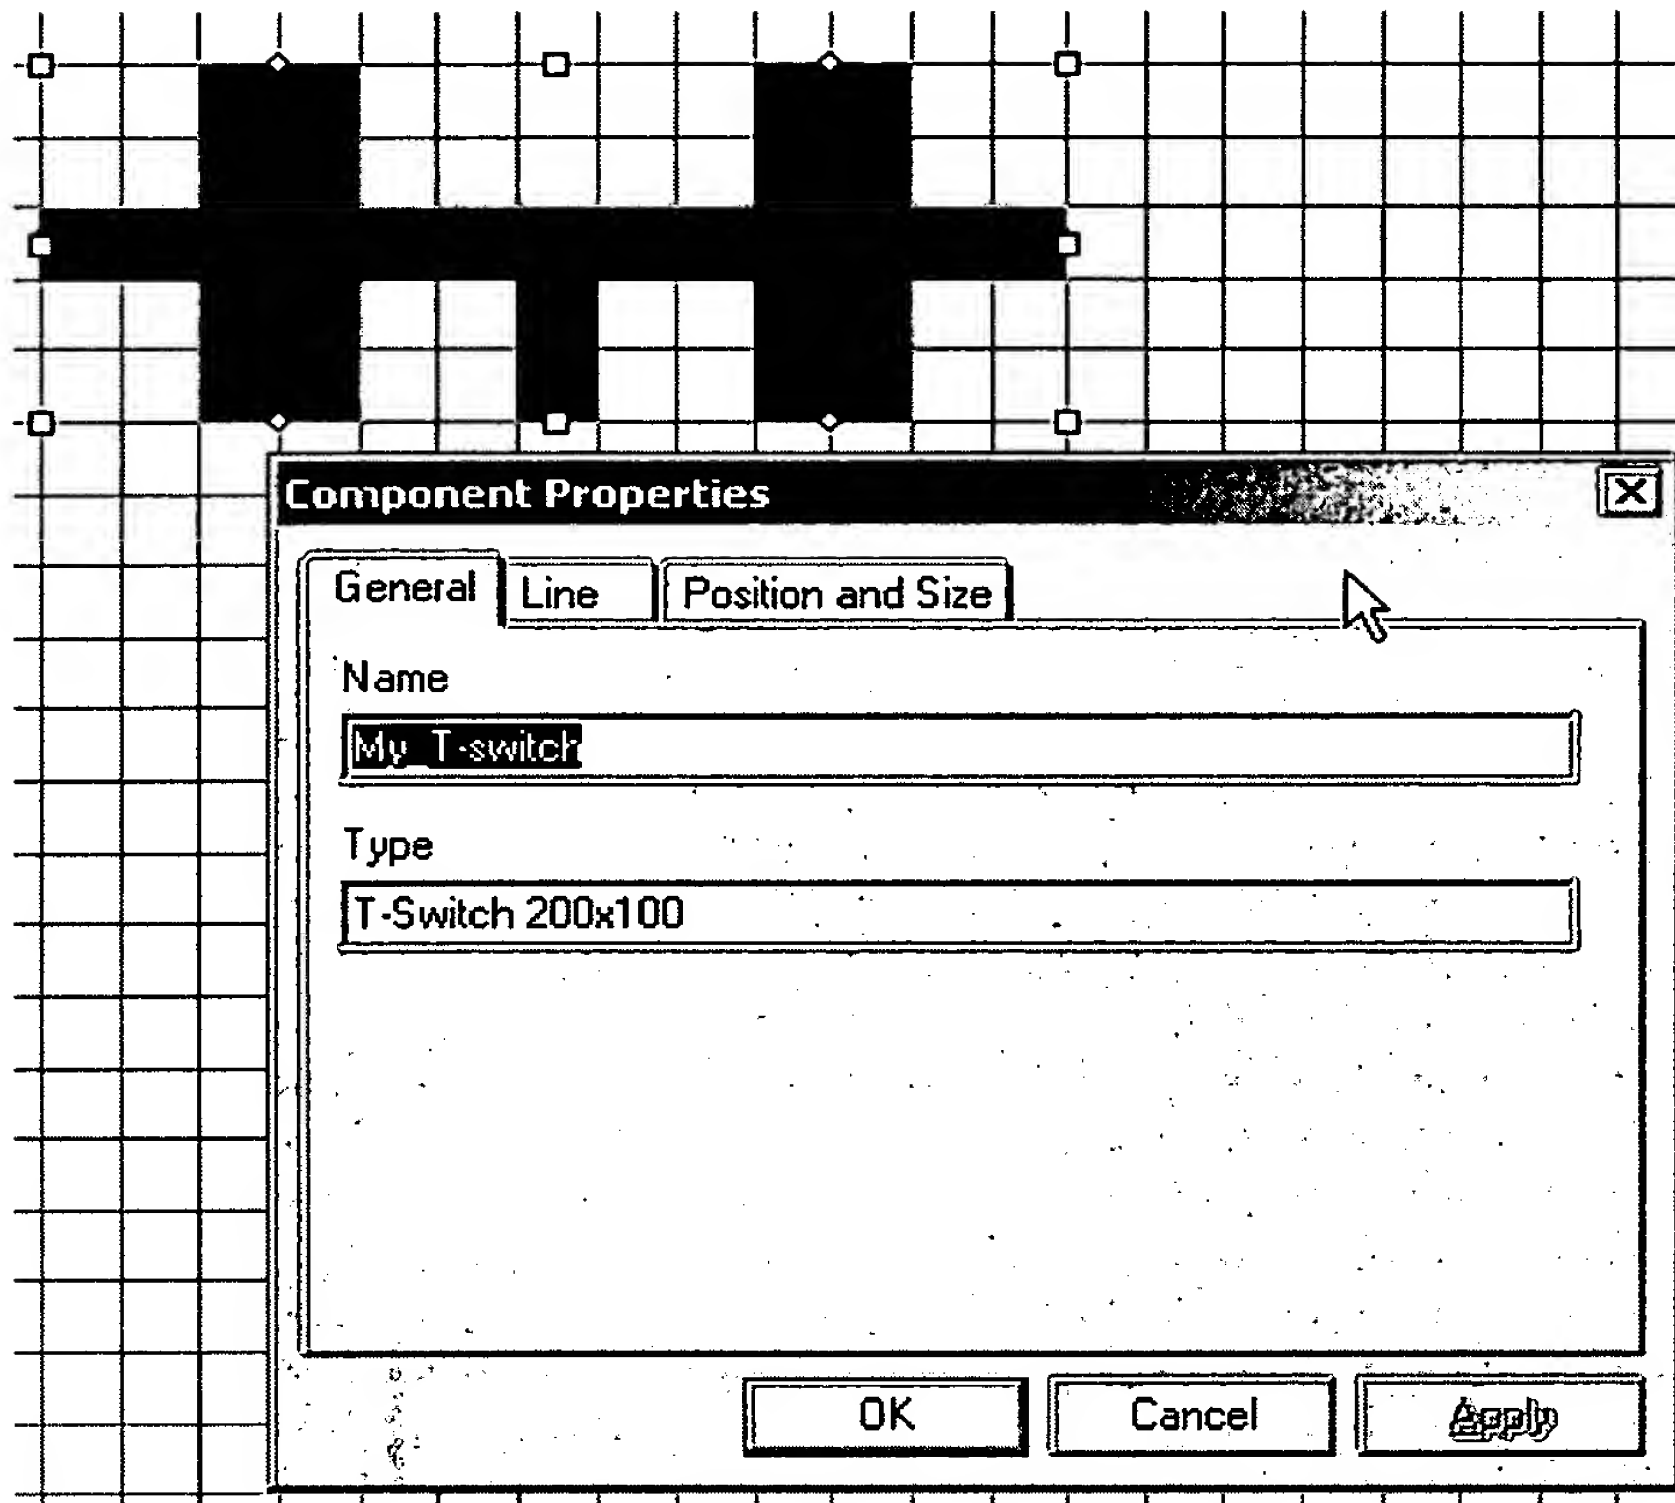

Figure 59 – Component Instance Property Dialog Box
- The Component Properties dialog box will appear. In this case, this component has been named "My\_T-switch". Figure 59 shows that type of component as well as two other tabs that contains placement information regarding the component.